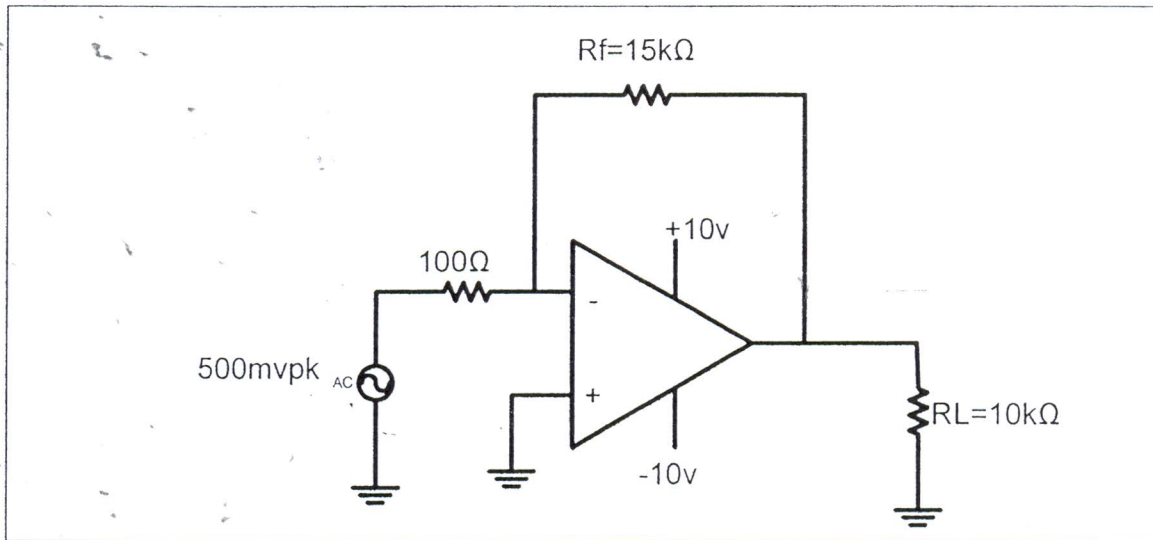

Figure 2
- (a) Figure 2 shows an inverting amplifier with the following values; $V_{in}=500\text{mV}_{pk}$, $R_{in}=100\Omega$, $R_f=15\text{k}\Omega$, $V_s=\pm 10\text{v}$, $R_L=10\text{k}\Omega$ and $A_v=150$.